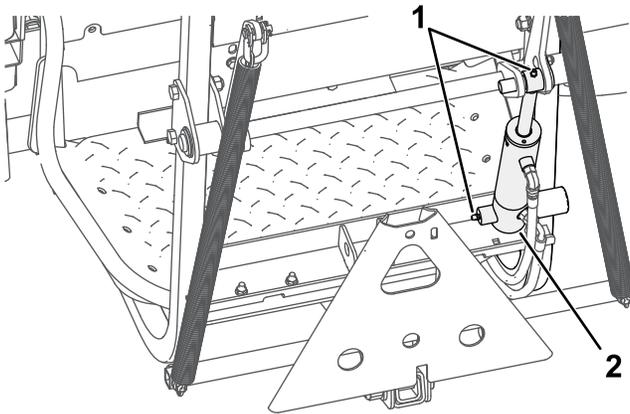

**Figure 73**
1. Remove the fill cap from the valve cover (Figure 73) and slowly pour approximately 80% of the specified amount of oil: 2.0 L (2.1 US qt) into the filler neck of the valve cover.